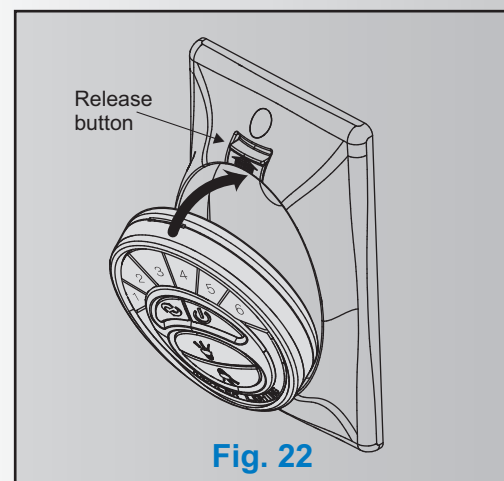

Fig. 22
1. Insert the transmitter into the wall plate by inserting the bottom of the transmitter first and then press the top of the transmitter into the pocket. The transmitter will fully function from this location or you can remove the transmitter and use as a "Hand Held" device. (Fig. 22)